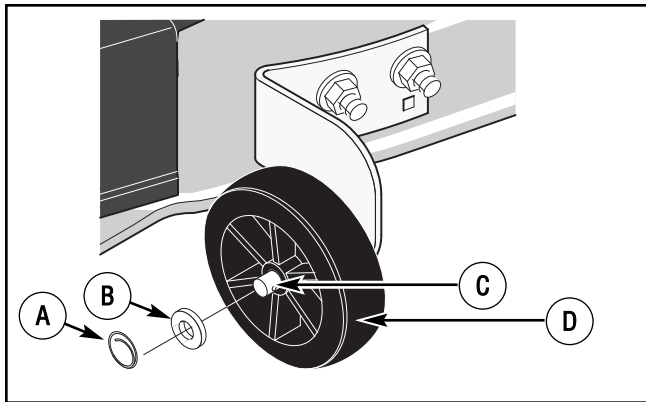

Figure 32: Gauge wheel assembly
1. Remove the **gauge wheels** (Figure 32).